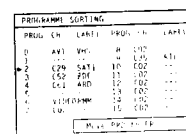

Fig. 16.
- 5 Using the number buttons select the programme position (e.g. 05 for programme position 5) to which you want to move the selected programme and press OK. Now the two programme positions have been sorted. (See Fig. 16.)